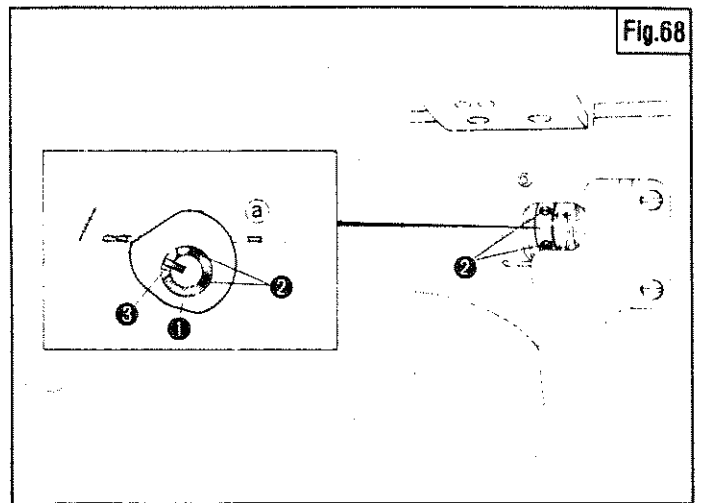

Fig.68
### SPREADER THREAD TAKEUP ADJUSTMENT(Fig.68)
- ① should be installed so that Stop Screw ③ comes in the center of the ring opening as shown in Fig.68.
- ① and ⑬ (page 19) should be adjusted so that Spreader Thread is cast off between the time when the thread is traversed by the action of Spreader Thread Hook and the time when Needle Bar begins to move up.